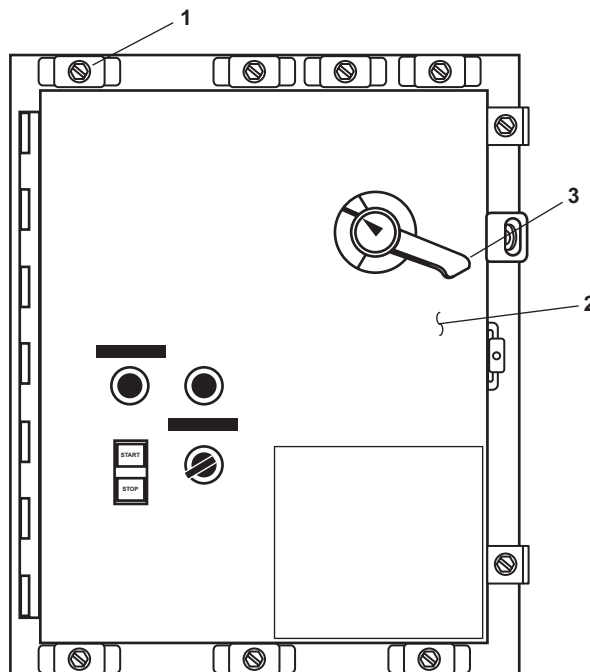

Figure 1. Controller
1. Loosen the nine captive retaining screws (figure 1, item 1) that secure the controller door (figure 1, item 2).
2. Place the handle (figure 1, item 3) in the RESET position.
3. Open the controller door (figure 1, item 2).